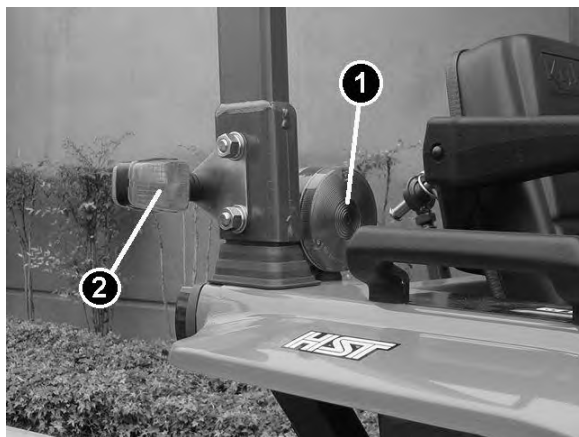

Figure 3.
- Tractors equipped with secondary hazard lights (Figure 3)